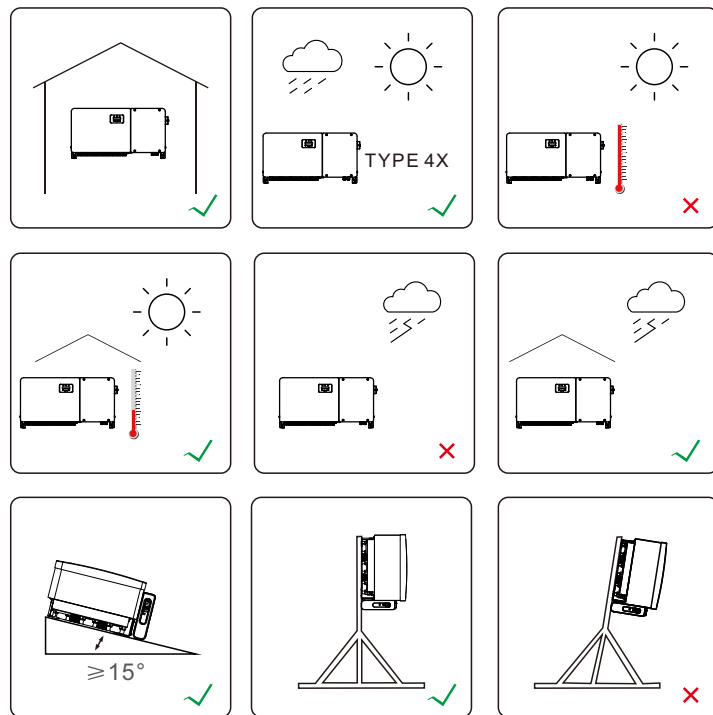
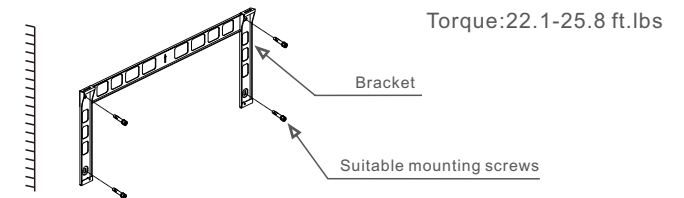
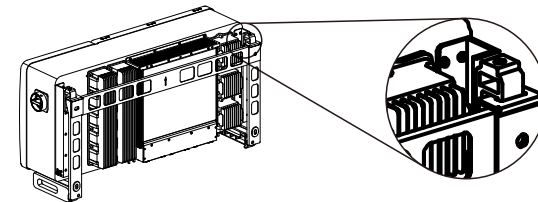

Figure 3.2 Recommended Installation locations
Figure 3.6 Inverter wall mounting
Figure 3.7 Install the inverter
Refer to figure 3.2, figure 3.6 and figure 3.7 Inverter shall be mounted upright, with electrical connections downward. The steps to mount the inverter are listed below.
1. Refer to Figure 3.6, drill holes for mounting screws based on the hole diameter of bracket using a precision drill keeping the drill perpendicular to the wall. Max depth is 3.5 inch.
2. Make sure the bracket is horizontal. And the mounting holes (in Figure 3.6) are marked correctly. Drill the holes into wall at your marks.